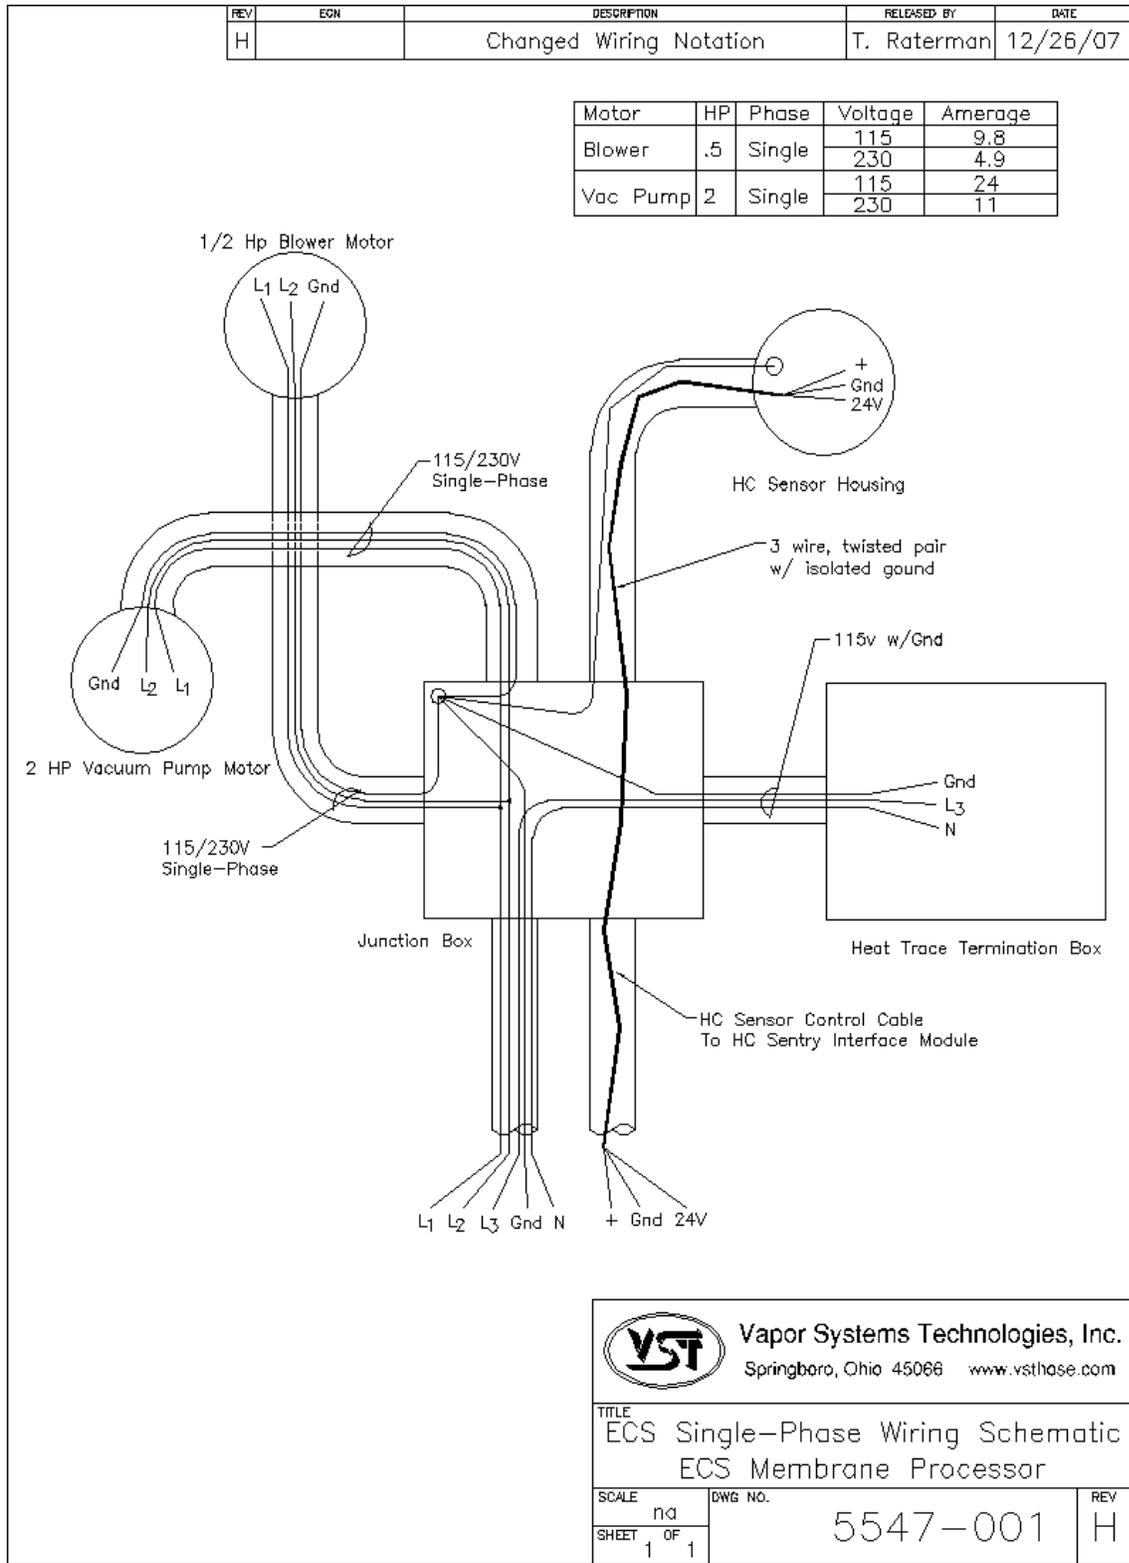

Figure 18: Single-Phase Wiring Schematic
- ▶ **See Figure 18: Section 14 / Page 60.**